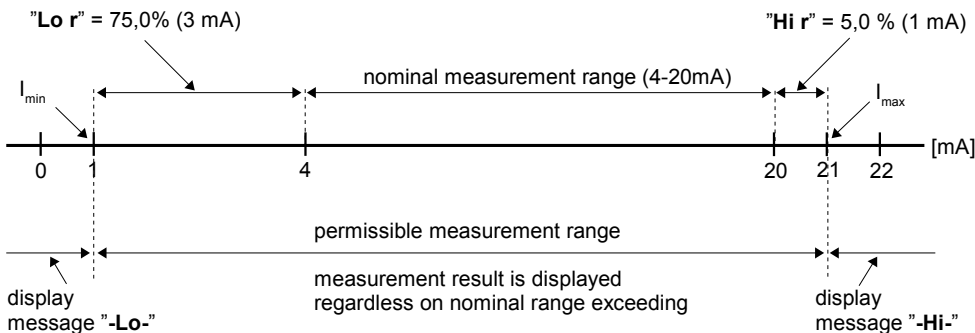

Figure 7.3 Example of definition of permissible range of input signal - "Lo r" and "Hi r" parameters ("4-20" mode)
- these parameters define the expansion of nominal range in percent. They determine the permissible range of input signal (Figure 7.3).